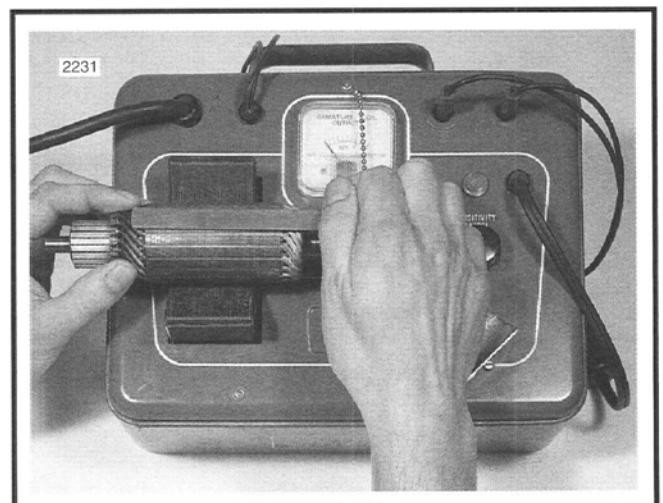

Figure 75. Shorted Armature Test Using Growler
10. See Figure 75. Check for SHORTED ARMATURE with a growler. Place armature on growler. Hold a thin steel strip (hacksaw blade) against armature core and slowly turn armature. A shorted armature will cause the steel strip to vibrate and be attracted to the core. Shorted armatures should be replaced.